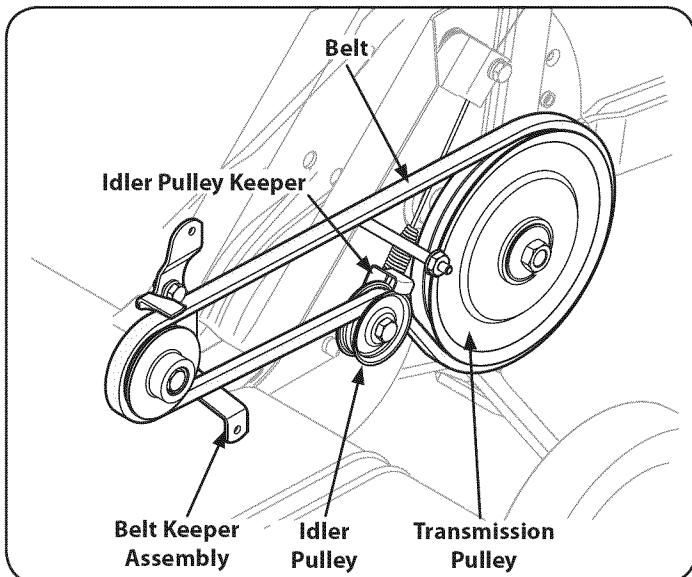

Figure 26
8. Remove the idler pulley bolt and move the belt from under the idler pulley keeper. See Figure 26.
9. Remove the belt keeper assembly located behind the engine pulley by removing the two hex bolts and lock washers. See Figure 26.
10. Remove the old belt from around the transmission pulley and install the new belt. See Figure 26.
NOTE: Upon reassembly, make certain that the idler pulley keeper is as shown in Figure 26. Take note of the notch on the bottom of the keeper and the alignment when reassembling with the replacement belt.